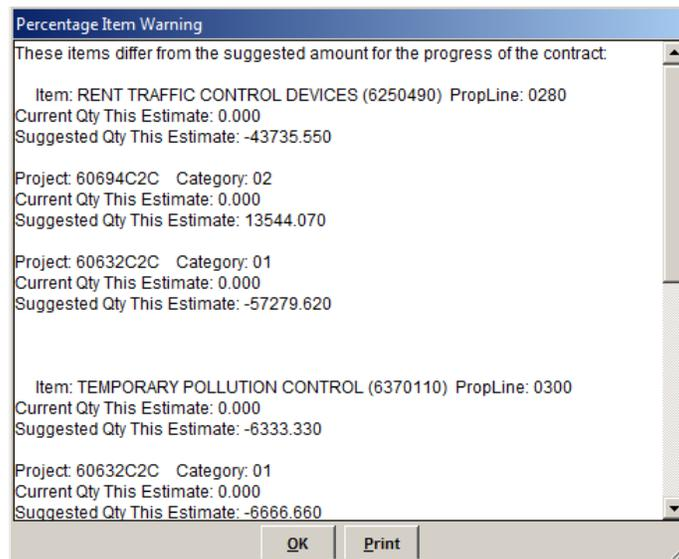
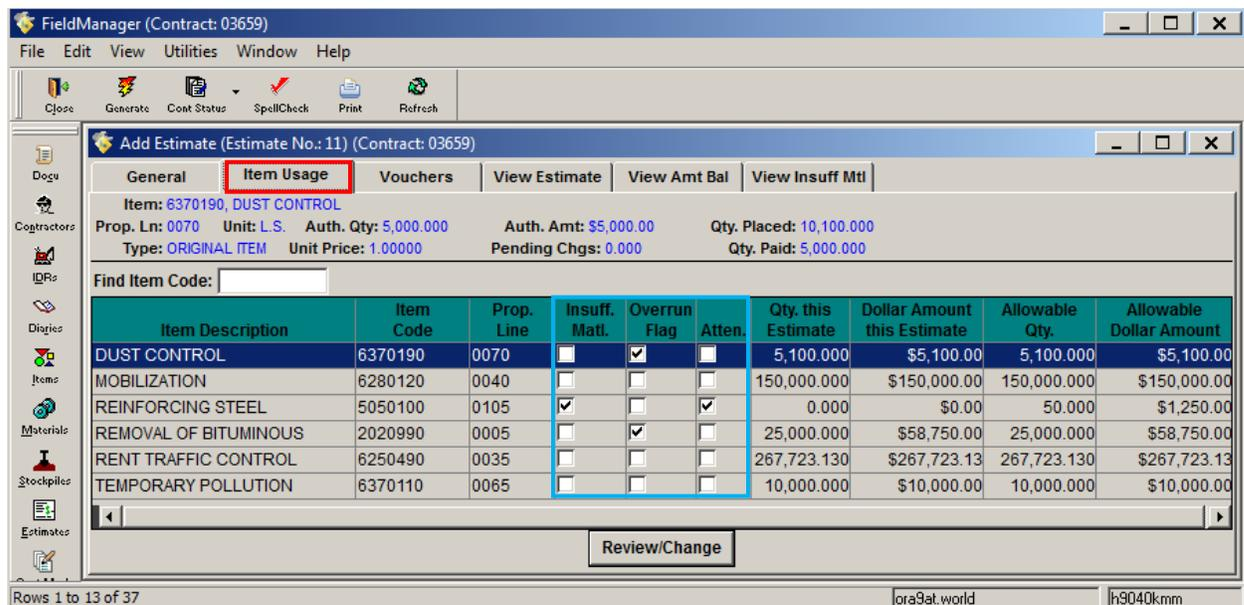

Figure 11-5. Item Usage Tab - Percentage Item Warning Window
Figure 11-6. Add Estimate Tab Window – Item Usage Tab
1. Click on the **Item Usage** tab (Figure 11-6). The Percentage Item Warning window opens (Figure 11-5).
3. Closely review the items included in the estimate, paying particular attention to the following: (see blue box in Figure 11-6)